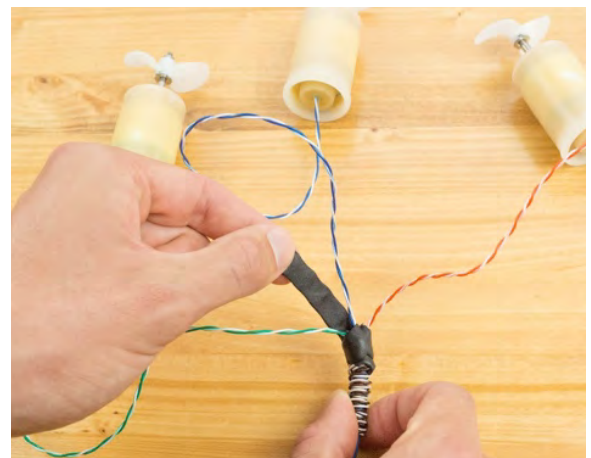

Figure 41
- ❑ Interweave (wind) a strip of the poly butyl rubber tape around the wire pairs where they emerge from the outer jacket of the tether cable. Knead and work it in so that it seals both around and between the wires and forms a smooth seal over the jacket opening to prevent water from getting inside the tether cable. (Figure 41)